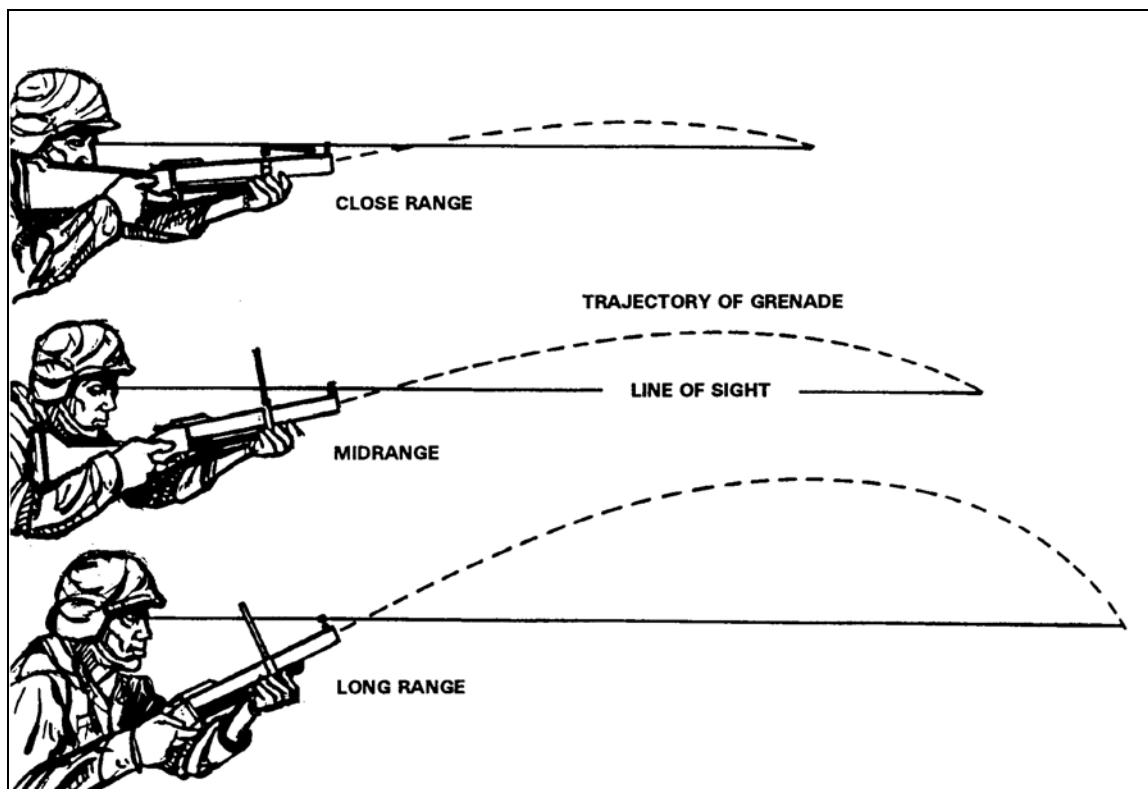

Figure A-21. Effect of increasing range.
(3) At ranges less than 150 meters, you can fire normally from your shoulder in any position. However, to maintain sight alignment at greater ranges, lower the position of the stock on your shoulder or drop the butt from your shoulder. At near-maximum ranges, you must position the stock between your waist and your armpit and hold the stock firmly against your body with your upper arm. In the prone position, once the stock is no longer against your shoulder, rest the butt of the launcher on the ground. Be careful to keep your head level when your cheek breaks contact with the stock. Figure A-21 shows the changes that occur as the range to the target increases.